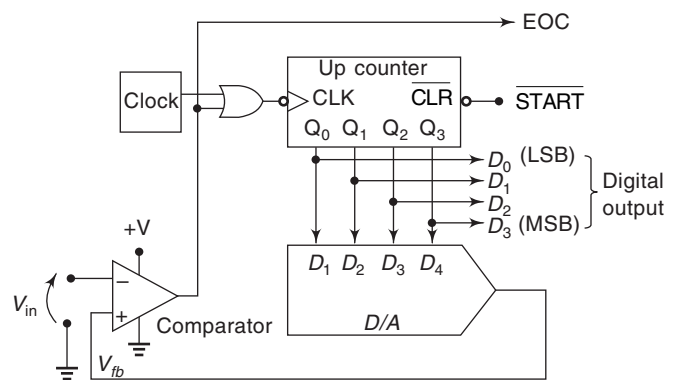

Fig. 17.15
17.36 The DAC in Fig. 17.15 has $V_{FS} = 10.00$ V, the clock PRF = 10 kHz and the LOW-to-HIGH transition of the START input is synchronized with the rising edge of the clock. Determine: